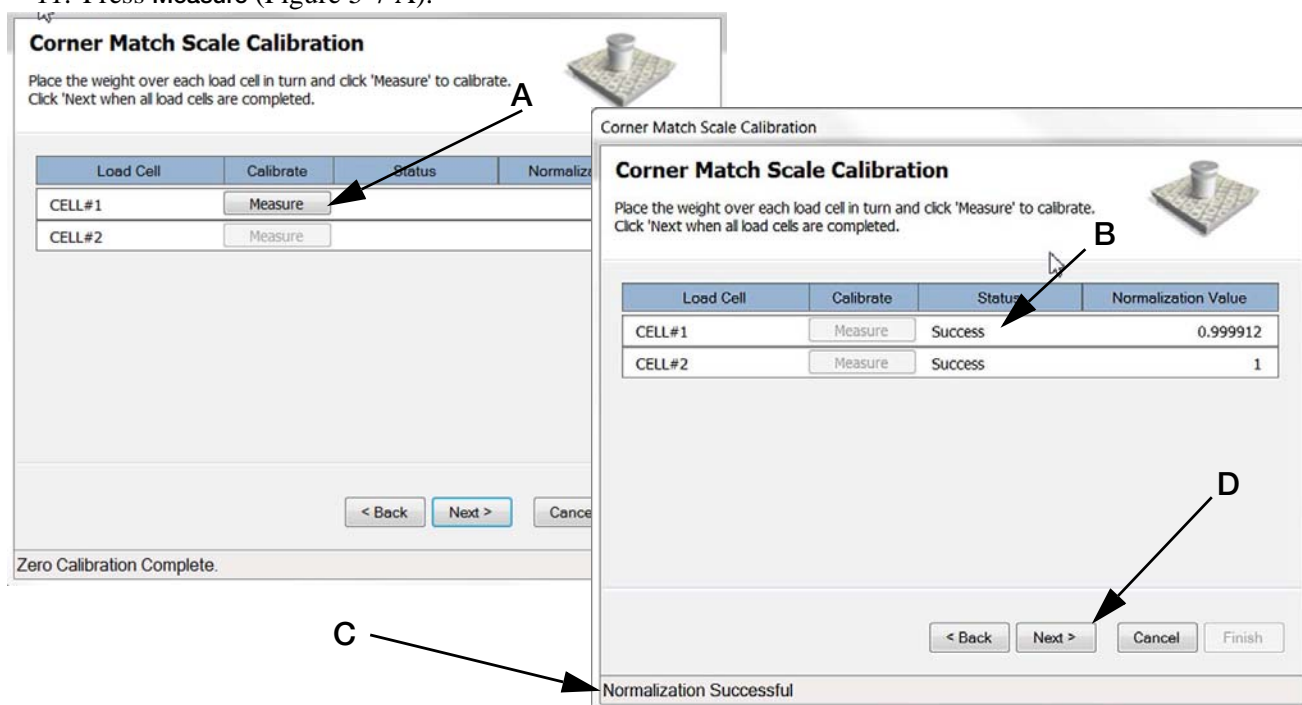

Figure 5-7. Load Cell Calibration
11. Press **Measure** (Figure 5-7 A).
12. Load Cell #1 status will read **Success** (Figure 5-7 B) and Load Cell #2 **Measure** will become available. Repeat steps 9-11 for Load Cell #2.
13. When both load cells have been calibrated (status reads **Success** for both Cell #1 & #2, Figure 5-7 B) and the **Normalization Successful** message appears (Figure 5-7 C) press **Next** (Figure 5-7 D).